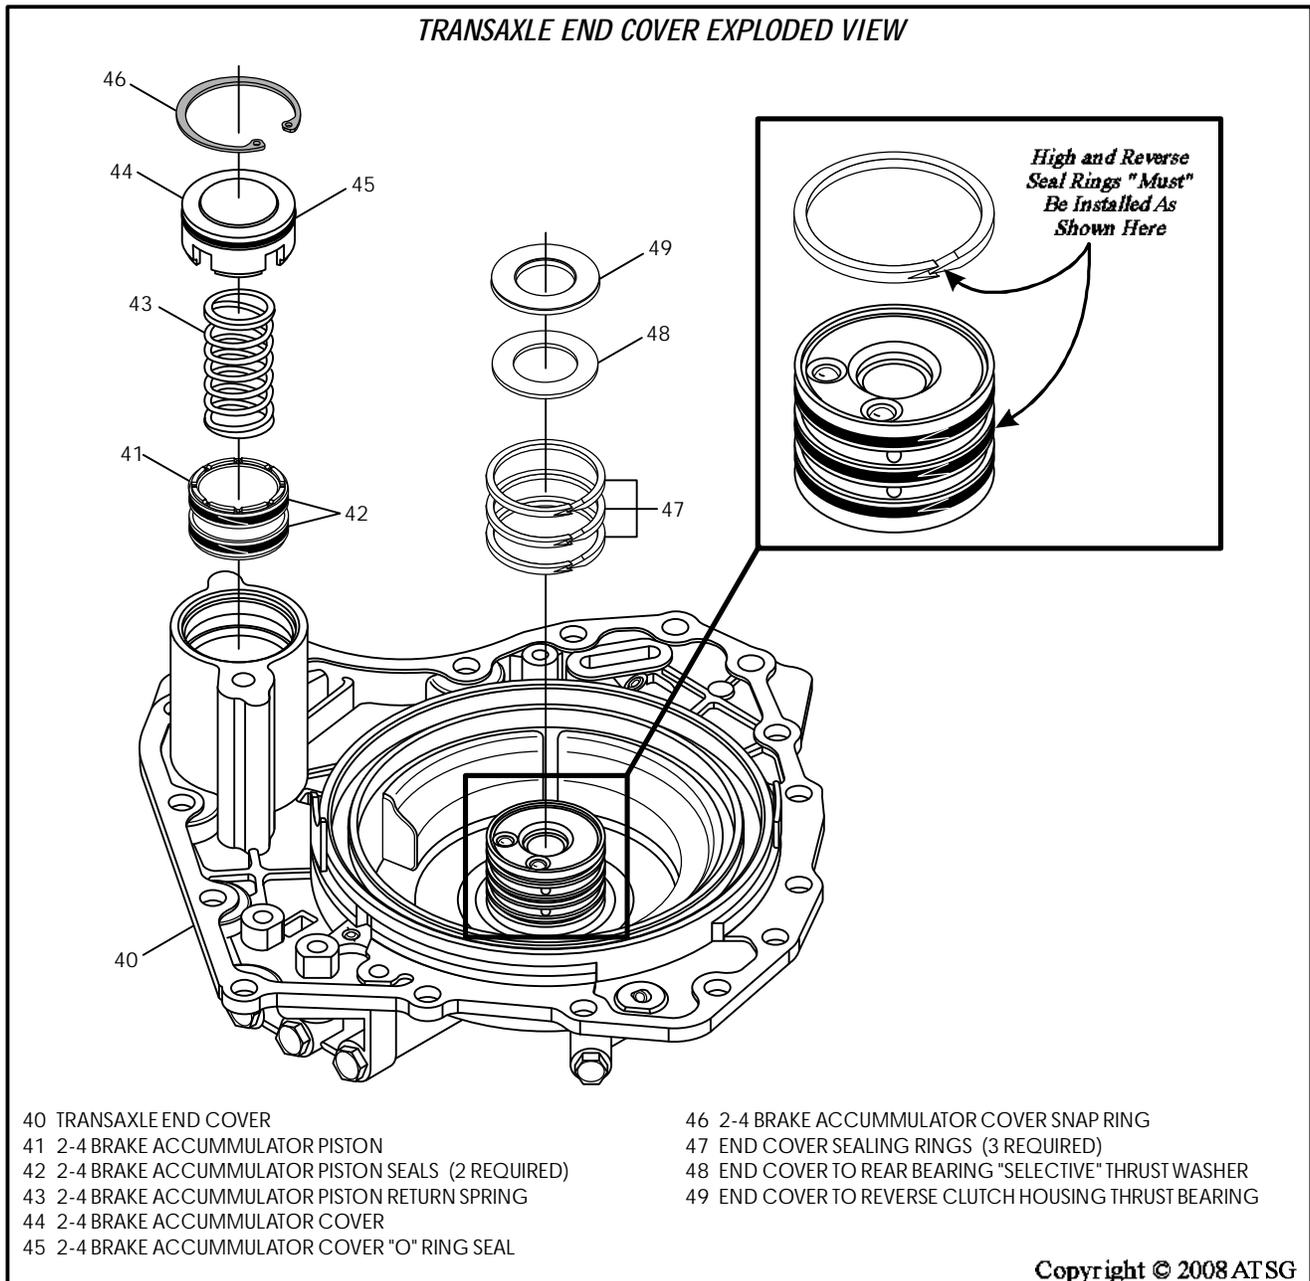

Figure 99
1. Disassemble the end cover using Figure 99 as a guide.
4. Install two new scarf cut seals on the 2-4 accumulator piston, as shown in Figure 99, and lube with small amount of Trans-Jel®.
5. Install 2-4 accumulator piston into end cover bore, as shown in Figure 99.
6. Install 2-4 accumulator spring in the piston, as shown in Figure 99.
7. Install new "O" ring seal on 2-4 accumulator cover, as shown in Figure 99, and lube with a small amount of Trans-Jel®.
8. Install accumulator cover, compress cover and install snap ring, as shown in Figure 99.
9. Install the "V" cut sealing rings onto the end cover support **exactly** as shown in Figure 99.
Caution: Fluid is fed through the end cover to apply the high clutch and the reverse clutch, which are both located in the reverse clutch housing. The sealing rings for the high/reverse clutch are Teflon® and one end has a point like an "arrow", and the other end is cut out the inverse of an arrow, like a "V", as shown in Figure 99. These sealing rings are directional, and when installed correctly, the point of the "arrow" is to the right and the "V" is to the left as shown in Figure 99.